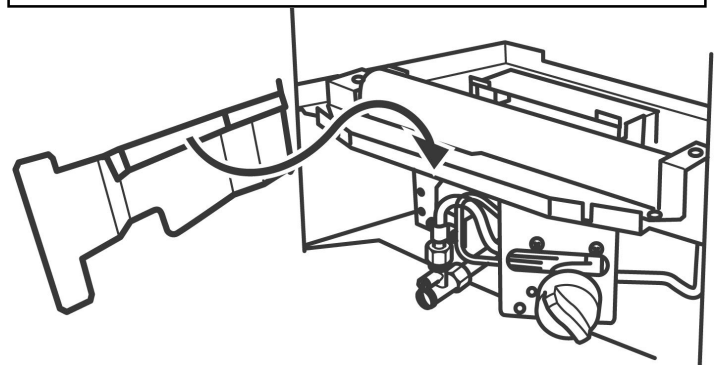

Figure 26. Fitting the burner baffle
4. Fit the burner baffle to the front flanges of the burner. To do this, place the baffle against the front flanges of the burner and lower into position. The return edges on the rear of the baffle should slot over the front flanges of the burner (See figure 26).
2. Fit the burner baffle to the front flanges of the burner. To do this, place the baffle against the front flanges of the burner and lower into position. The return edges on the rear of the baffle should slot over the front flanges of the burner (See figure 26).
position. The return edges on the rear of the baffle should slot over the front flanges of the burner (See figure 26).